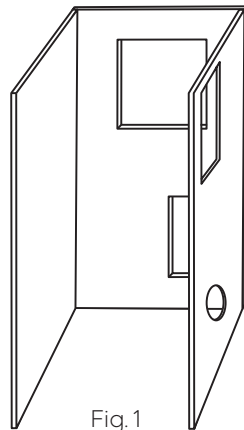

Fig. 1
1. Stand the pieces on edge so that the long joint is vertical (Fig. 1). Apply tape across the joint with the back piece outside, over the edge of the side/wall piece and flush along the edge. Tape the next joint like the first, back piece outside over the edge of the side/wall piece.